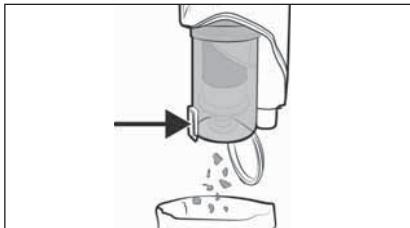

Fig. 21
- Empty the dirt container ⑦ and clean the stainless steel filter ⑥ and the EPA filter ⑤ when the dirt container ⑦ level reaches the **MAX** mark.
- 1) Hold the dirt container 7 in a waste bin and press the release button for the dirt container lid 8. The dirt container lid 9 opens and the contents are emptied into the waste bin (see Fig. 21). Then close the dirt container lid 9.